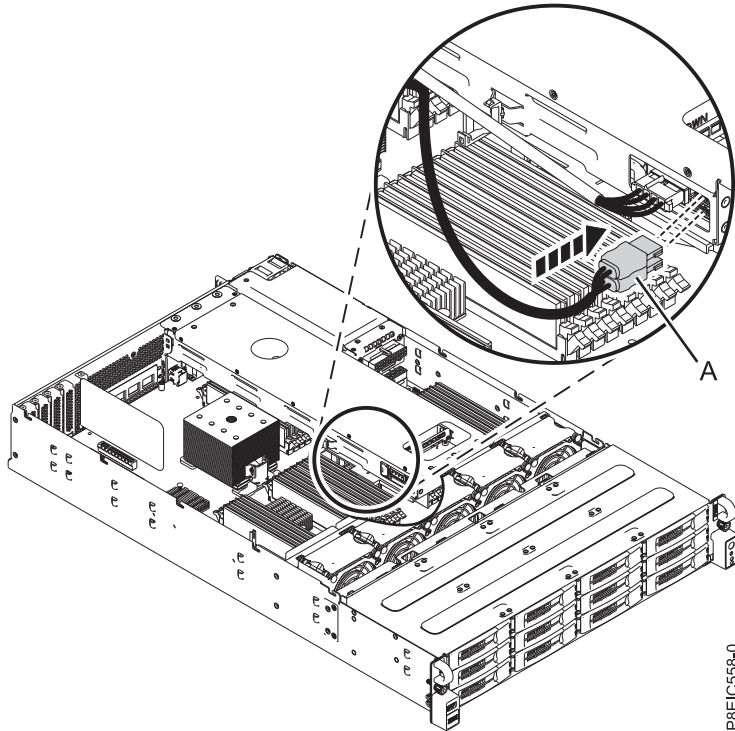

Figure 42. Connecting the drive signal cable to the rear drive tray assembly
3. Connect the drive signal cable (A) to the rear drive tray assembly, as shown in Figure 42 on page 36.